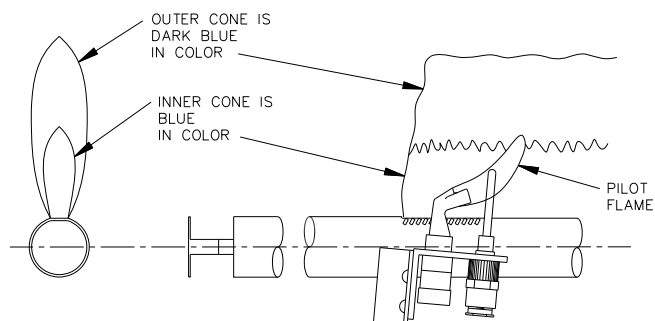

Figure 10.1: Standing Pilot and Main Burner Flame
3. Check the pilot and main burner flame. See Figures 10.1 and 10.2. The pilot should provide a steady flame enveloping 3/8" to 1/2" (10 mm to 13 mm) of the flame sensor. If required, adjust the pilot as stated in the gas valve manufacturer's instructions. The main burner flame inner cone should be approximately 1-1/2" (40 mm) high and should have a very sharp, blue color characteristic.